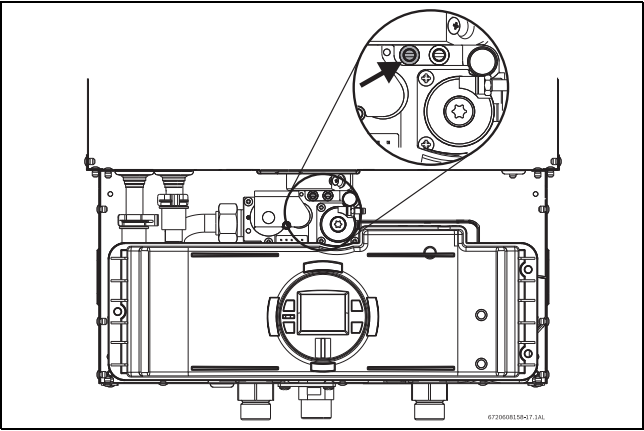

Fig. 41 Gas pressure test port (left tapping)
- ▶ Remove front cover and locate inlet gas pressure test port (see Fig.41).